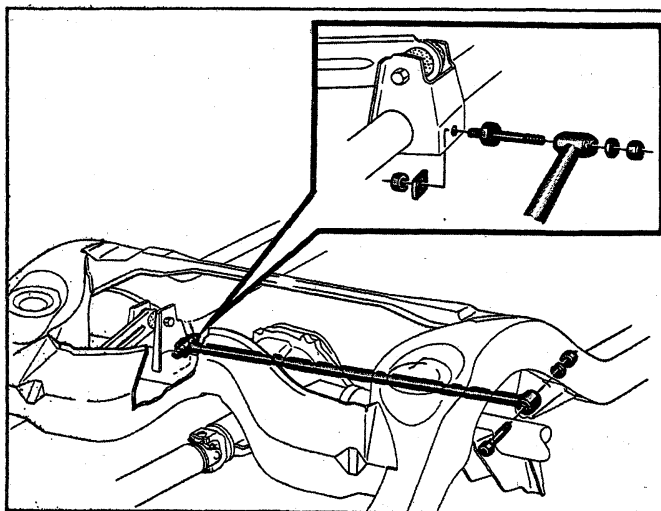

Fig. 44—Rear Suspension Tie Rod Attaching Points (Chevrolet)
1. Remove the nut, washer and bolt from the left side and the nut and washer from the stud on the right side that secure the tie rod to the brackets (fig. 44). Withdraw the rod from under the vehicle. An external shell service bushing is available for left side on all models and both right and left on station wagons.
2. Install the bolt, lock washer and nut to the frame bracket (fig. 44). Do not tighten.